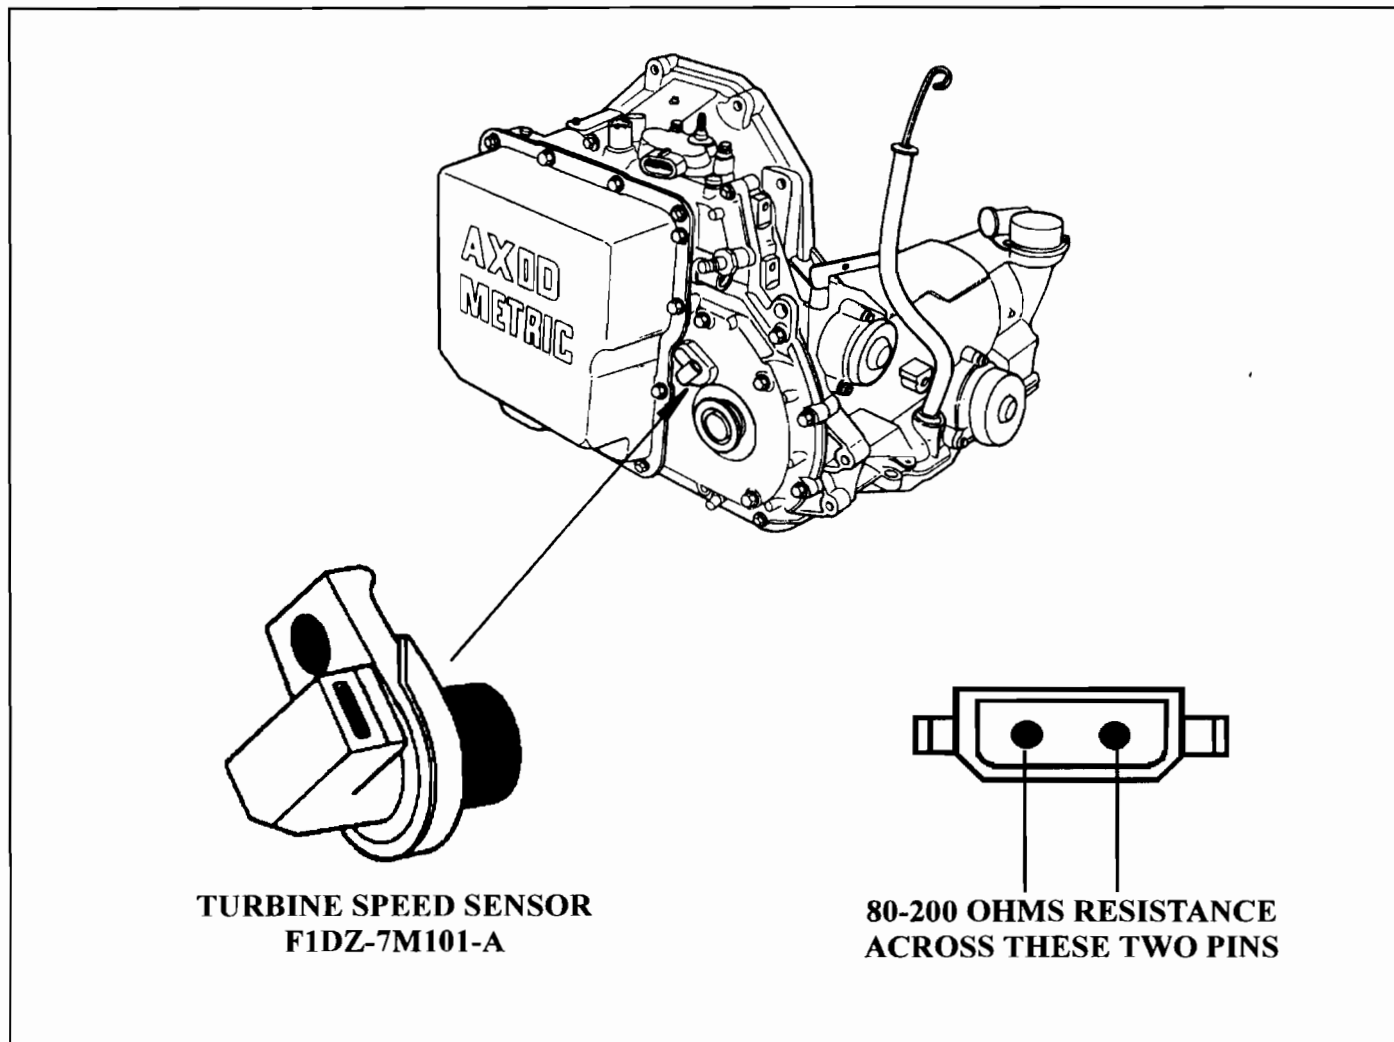

Figure 7
**CORRECTION:** The Turbine Speed Sensor is located on the chain cover, near the left axle seal, as shown in Figure 7. To test the TSS, disconnect the sensor harness connector, and place the leads of a DVOM across the two sensor pins. A good sensor should read 80 - 200 ohms resistance (See Figure 7). If the readings are not within the acceptable range, replace the Turbine Speed Sensor with OEM part number F1DZ-7M101-A.